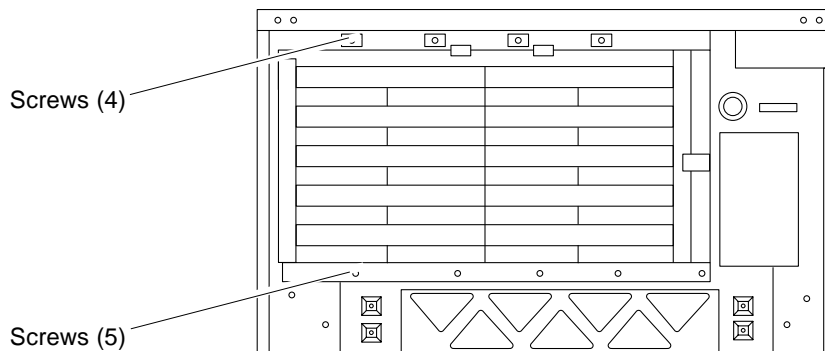

FIGURE 4 Universal Bezel Rear—Screw Locations
- 2. Remove the ten screws that secure the old bezel insert to the bezel (FIGURE 4).**
FIGURE 4 shows the screw locations for the new universal bezel insert, however, the location of the screws on the old bezel insert is similar.